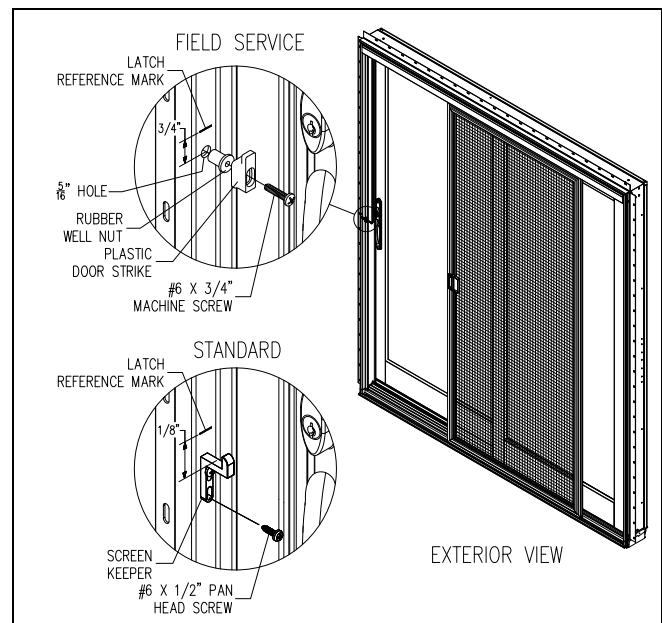

Figure 5
2. Open and slide the screen to the open position. Position strike on the jamb  $1/8$ " below the latch reference mark. Center the strike on the jamb between the interior and exterior of the screen. See Figure 5. Mark the center of each screw slot on the jamb. Drill pilot holes with a  $3/32$ " drill bit. Position strike on jamb and fasten with the two provided  $\#6 \times 1/2$ " pan head screws. See strike screws at the center of the adjustment slots. Close screen and check latch operation. Raise or lower strike as needed.